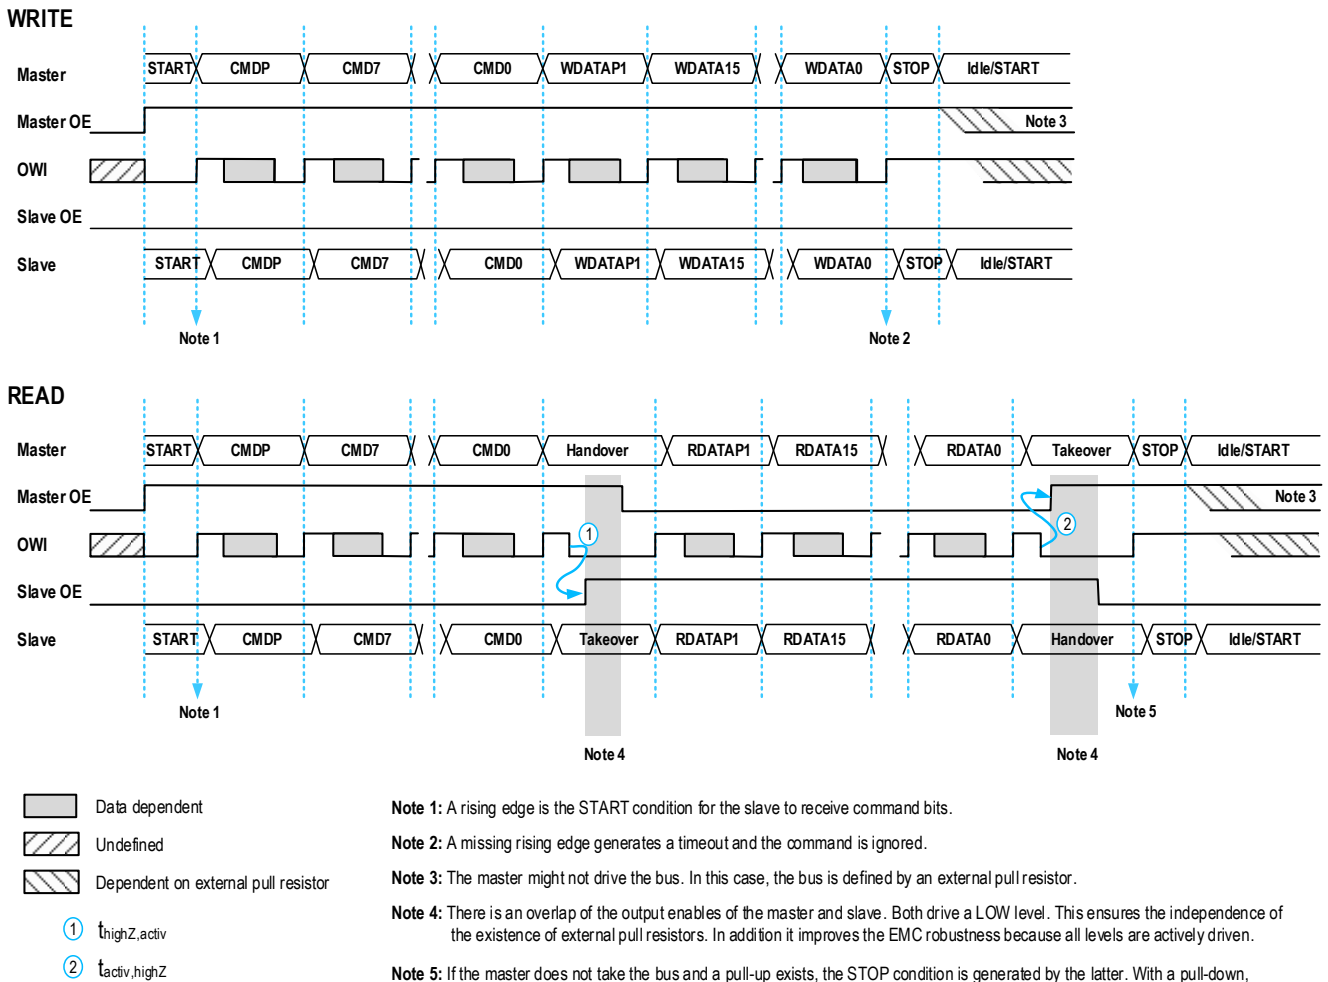

Figure 5. OWI Detailed Data Transfer
Figure 5 shows the timing for full WRITE and READ access. Each command consists of an associated parity bit followed by 8 command bits (CMDP, CMD7 to CMD0). Each data word consists of the parity bit associated with the 8 most significant bits (MSBs) followed by the 8 MSBs and then the parity bit associated with the 8 least significant bits (LSBs) followed by the 8 LSBs (DATAP1, DATA15 to DATA8, DATAP0, DATA7 to DATA0). The parity bit is always transferred first followed by the data starting with the MSB.
Figure 5 illustrates this protocol using the prefix R or W to indicate the direction of the parity and data bits.
3. See section 2.3.2, section 2.3.3, and Figure 5 for further information.